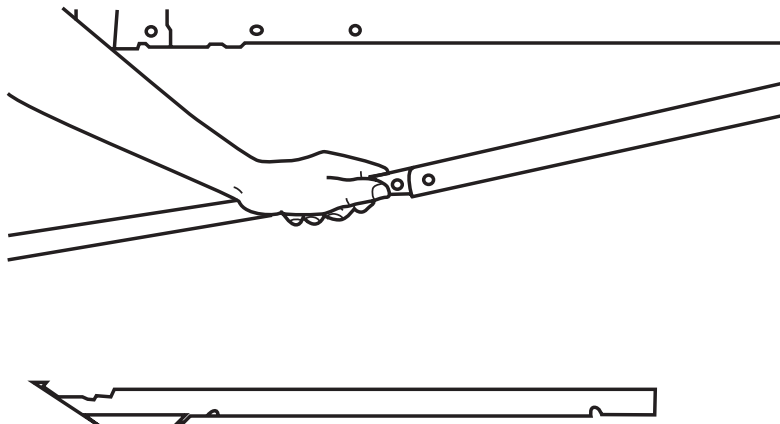

FIGURE 6 - ATTACHING PULL TUBE END TO HEAD DRIVE ARM
14. Reconnect pull tube end to head spring drive arm using the clevis and cotter pins. Refer to **FIGURE 6**.